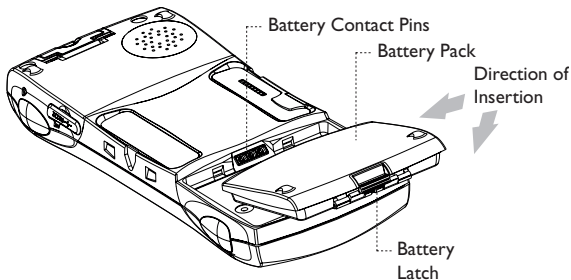

Figure 2.6 Battery Insertion
Before you can use the netpad you must fit the battery—slide it into place until it clicks, as shown in Figure 2.6 on page 27.
3. Push in the replacement battery pack (see Figure 2.6).